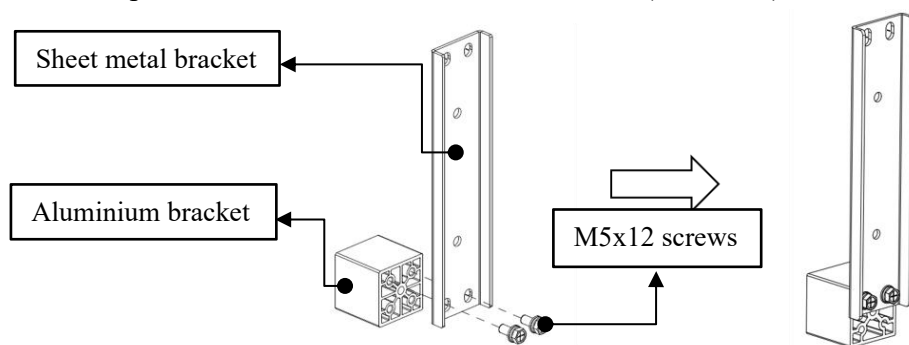

Fig.3.1 Assembly the basic bracket
(1) Take 1 sheet metal bracket and 1 aluminium bracket and assemble them into 1 set of basic brackets (Fig. 3.1) with 2 M5*12 screws as shown in the diagram.
(2) Each box corresponds to 4 sets of basic brackets (1 set). The number of sets of basic brackets required for different models is as follows (Table 3.1):